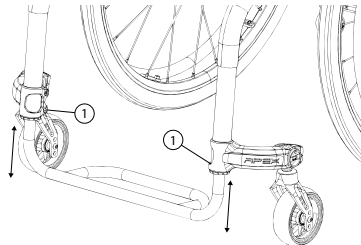

Fig. 19c
- Loosen bottom 5mm Hex screws (1) on the right and left caster mount clamps (Fig. 19c)
- Tighten the screws (1) firmly.